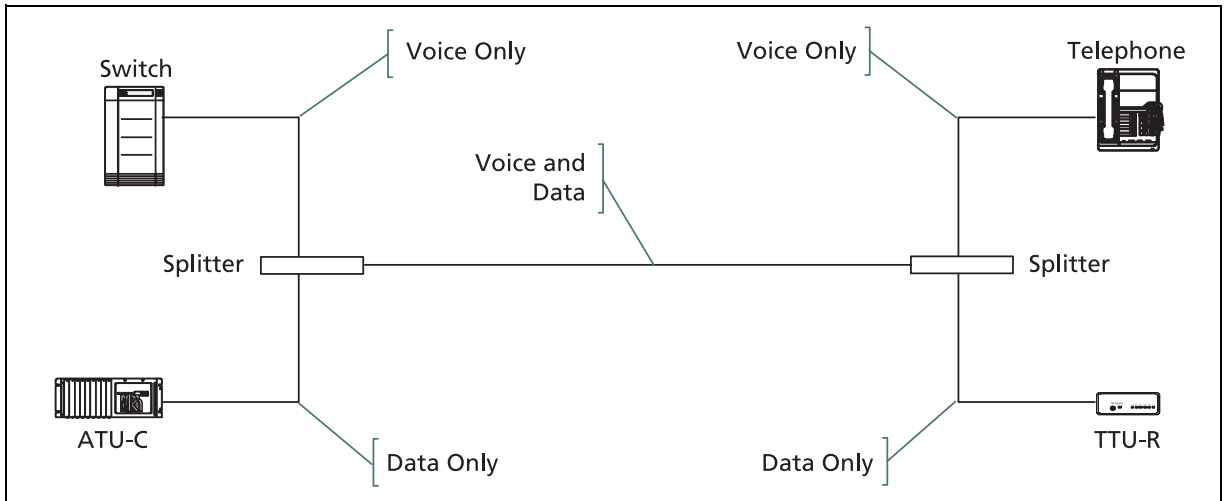

Figure 2-2. Line with Both ADSL and POTS
Figure 2-2 shows a typical ADSL over POTS connection from a Central Office (CO) to the customer's premises. A TS1200 in Monitor mode may be connected to the Tip and Ring pair, at any point in the connection, without interfering with the services on the line while ADSL tests are not running.